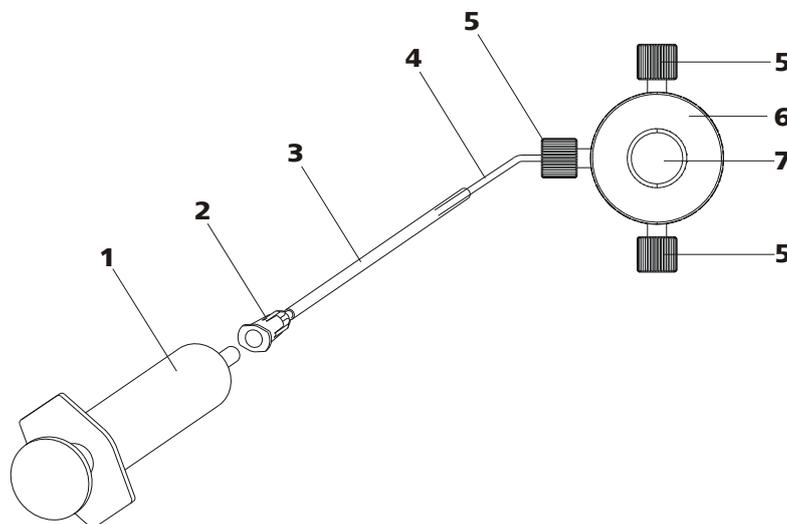

Figure 19 Deaerating the high pressure pump
Deaerate the high pressure pump as follows (see *Figure 19, page 36*):
- Insert syringe (19-1) in the Luer connector (19-2) of the purging needle (see Figure 19, page 36).